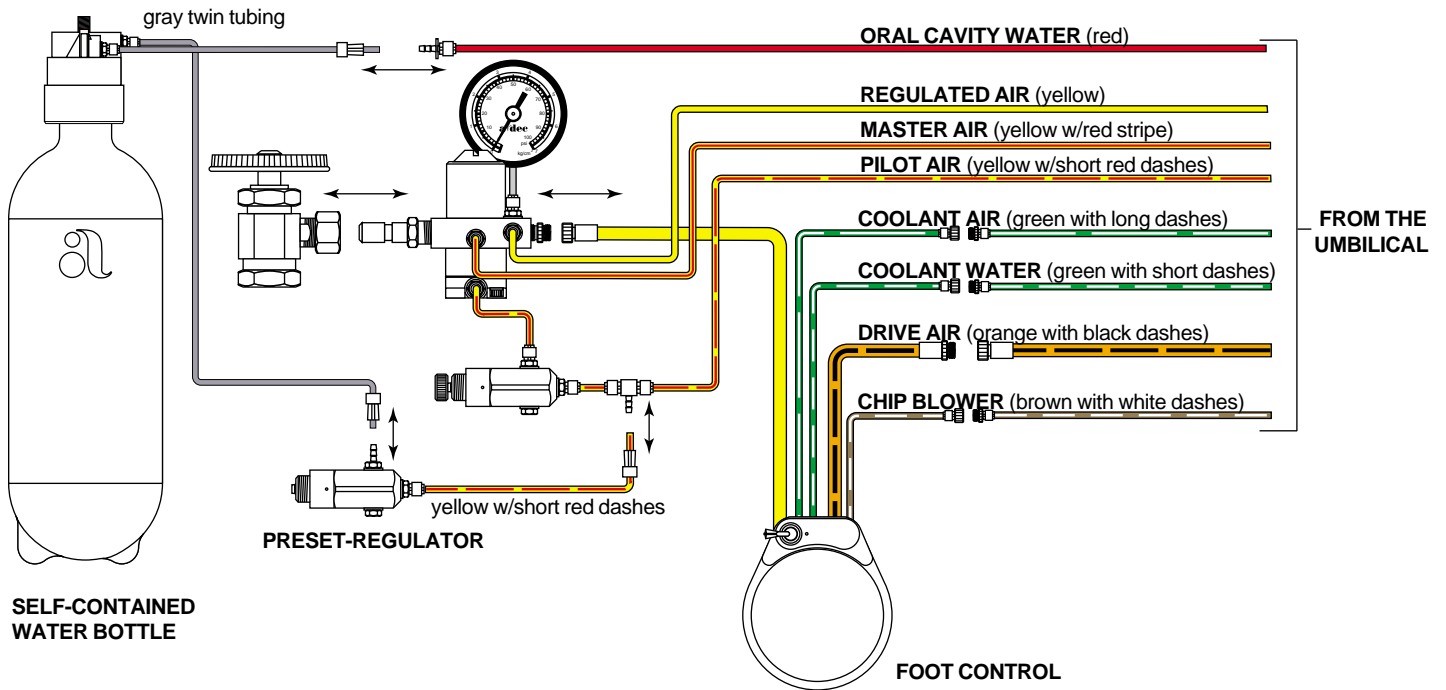

FIGURE 14
2. Install gray twin tubing to the upper and lower ports of the water bottle cap, using uni-clamps to secure the connections (see Figure 14).
3. Install the upper gray tubing from the water bottle to the preset-regulator, using a uniclamp to secure the connection (see Figure 14).
4. Install the lower gray tubing to the red tubing from the umbilical, using a uniclamp to secure the connection (see Figure 14).